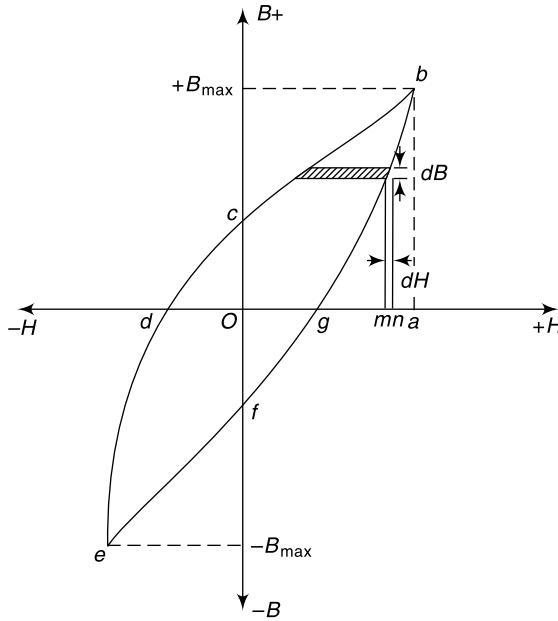

Fig. 3.31 Hysteresis loop for steel ring
Figure 3.31 represents the hysteresis loop obtained of a steel ring of mean circumference (l) meters and cross-sectional area (a) square meters. Let (N) be the number of turns on the magnetizing coil.